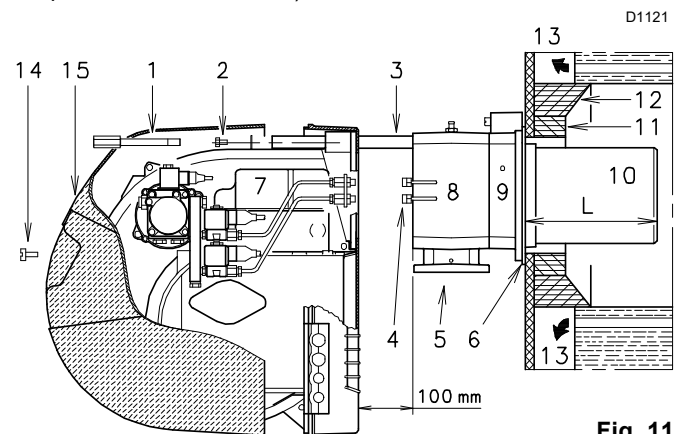

Fig. 11
For boilers with a water-cooled front piece, a refractory lining (11)-(12)(Fig. 11) is not necessary, unless expressly requested by the boiler manufacturer.
- Separate the combustion head from the rest of the burner (Fig. 11):
- disconnect the light oil pipes unscrewing the two unions (4).
- remove screw (14) and extract the cover (15).
- remove screws (2) from the two slide bars (3).
- remove screw (1) and pull the burner back on slide bars (3) by about 100 mm.
- Disconnect the wires of the electrodes and then pull the burner completely off the slide bars, after removing the split pin from the slide bar (3).
Once this operation (if necessary) has been carried out, fix the flange 9)(Fig. 11 on page 18) to the boiler plate, interposing the insulating gasket 6)(Fig. 11 on page 18) supplied. Use the 4 screws supplied with the unit, after protecting the thread with anti-locking product. The seal between burner and boiler must be air-tight.
- Refit the burner 4)(Fig. 17) on the slide bars 3) at about 100 mm from the pipe coupling 5), burner in the position shown in Fig. 11 on page 18.
- Reconnect the light oil pipes by screwing the two fittings 4)(Fig. 11 on page 18).